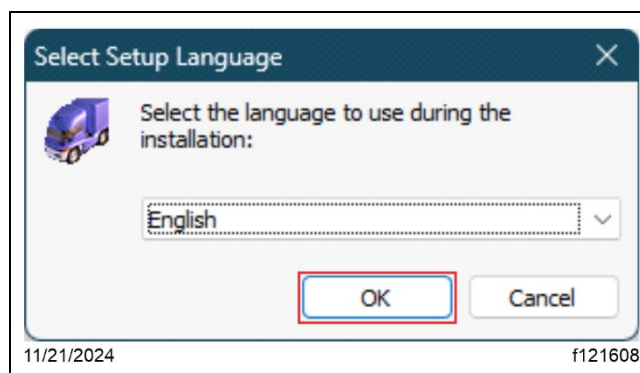

Fig. 33, Selecting the Setup Language
7.4. In the 'Select Setup Language' window, choose 'English' and select 'OK.' See Fig. 33.